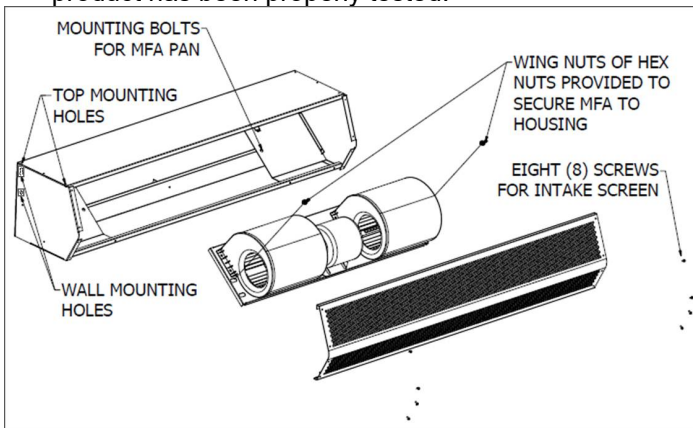

FIG. 2
1. Once the housing is installed over the opening, the Motor Fan Assembly (MFA) must be re-placed and securely fastened. For products with the MFA shipped loose, wing nuts or hex nuts are provided inside the unit (FIG. 2). For heated MFA installation, reference **Heated Products Supplement Sheet**.
4. power or motor leads and the motor will rotate the opposite direction. Make sure all motors are turning in the same and proper direction. (FIG. 2)